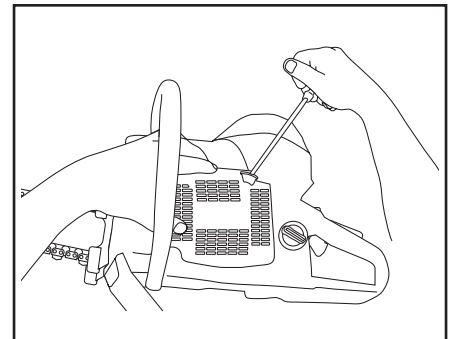

Figure 6
- To reattach the starter housing, first pull the starter cord out, then hold the starter housing against the crankcase (Figure 6). Slowly release the starter cord to enable the pulley to fit between the pawls.